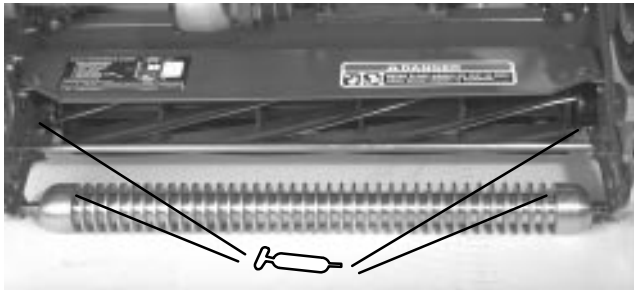
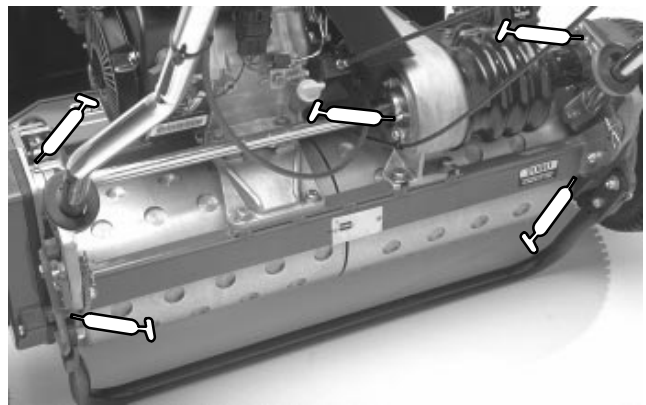
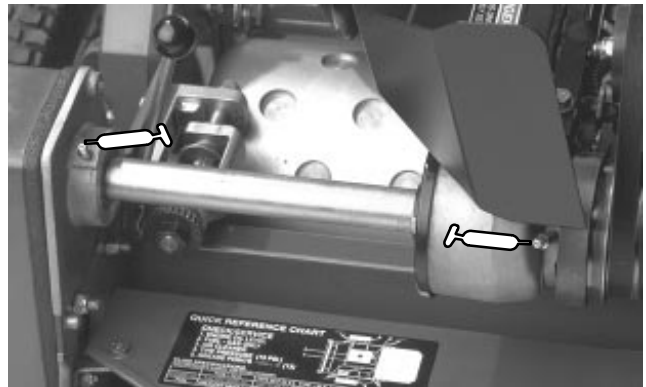
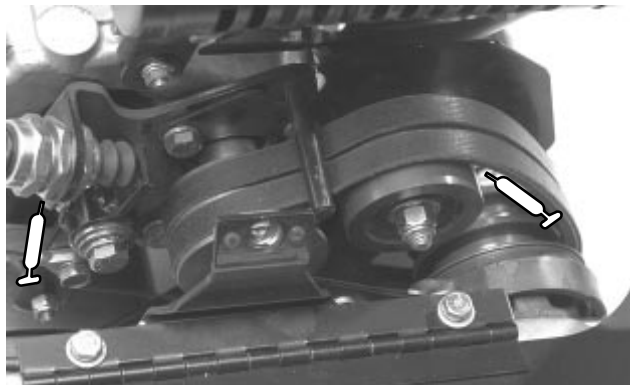

Figure 22
Figure 23
Figure 24
Figure 25
2. The grease fitting locations are: (2) on Front Roller (Fig. 22), (2) on reel bearings (Fig. 22), (2) on Drum Axles (Fig. 23), (3) on Differential (Fig. 23), (2) on Reel Countershaft Bearings (Fig. 24) and (2) on Belt Idler Pivots (Fig. 25).